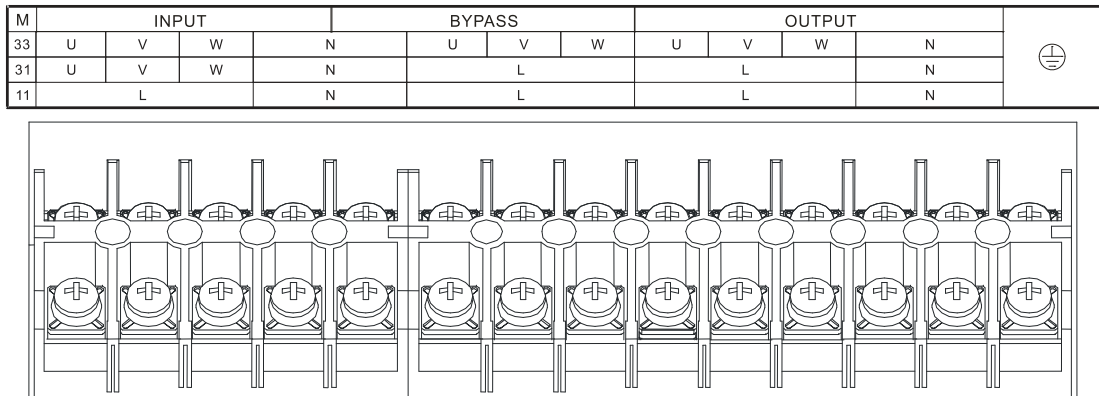
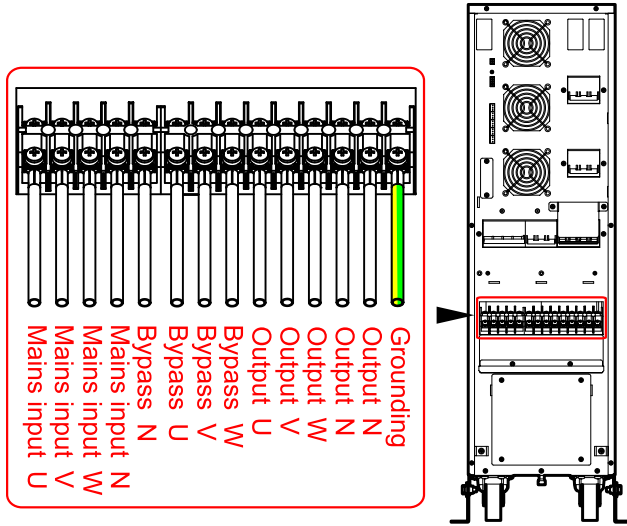
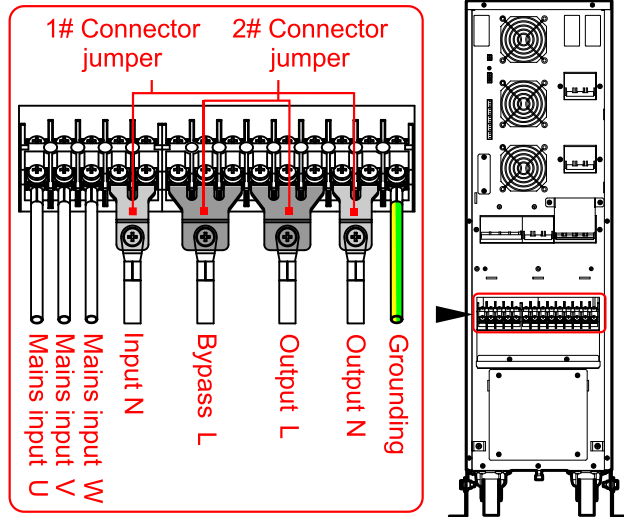
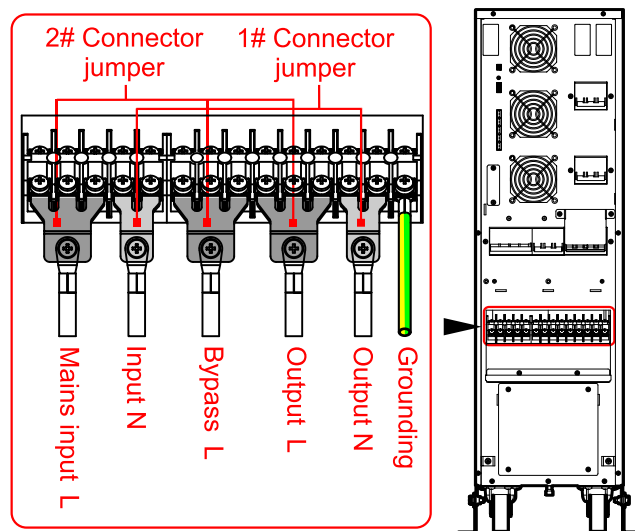

Figure3-12 Wiring terminal silk-screen
Figure3-13 Wiring diagram of 33 mode
Figure3-15 Connector jumper and wiring diagram of 31 mode
Figure3-16 Connector jumper and wiring diagram of 11 mode
Step 2 The 10/10S/10T/15/15S/15T/20/20S/20T mode includes 33, 31 and 11, the corresponding silk-screen shown in Figure3-12. The wiring terminal of 33 mode, 31 mode and 11 mode have a little different, as shown in Figure3-13, Figure3-15 and Figure3-16.
The mains input and bypass input are connected separately when the mains input and bypass input have different input sources, as shown in Figure3-13.
Take out a couple of 1# and 2# connector jumper (1# and 2# connector jumper is optional), connect them to the wiring terminal of UPS (as shown in Figure3-15). Then connect the wires to corresponding port according to the wiring diagram.
Take out a couple of 1# connector jumper and three 2# connector jumper (1# and 2# connector jumper is optional), connect them to the wiring terminal of UPS (as shown in Figure3-16). Then connect the wires to corresponding port according to the wiring diagram.